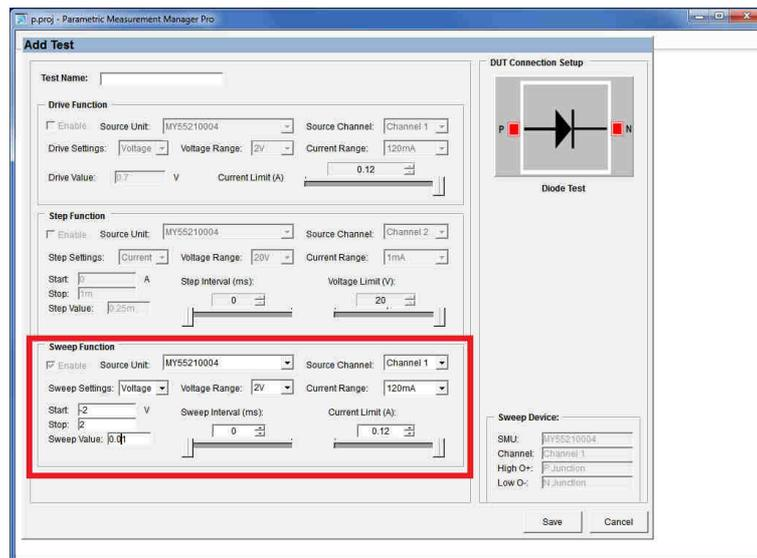

Fig.14. "Add test" window
2) From the context menu on the left side, choose "Add test". The window that is displayed is presented in Fig. 14. Next, choose "Diode test".